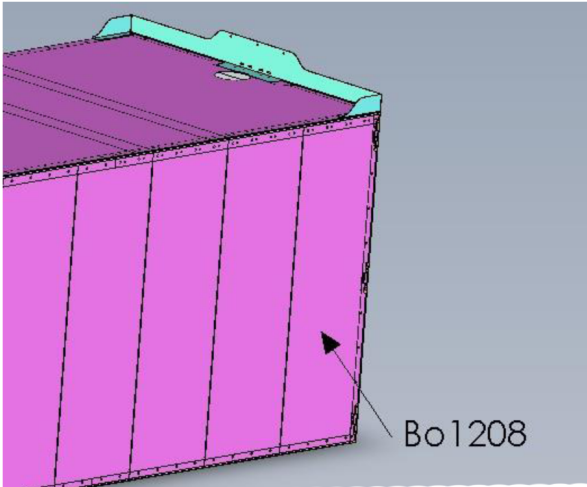

Figure 26
22) Install panels BO-1208 on both sides of oven. *See figure 26.*